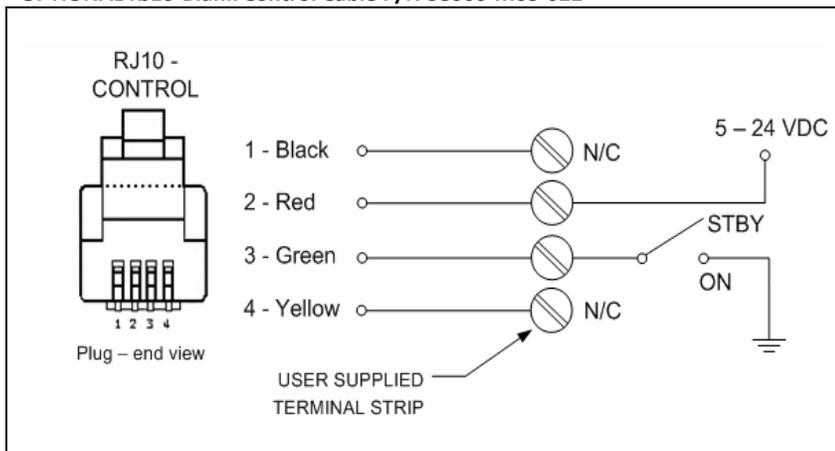

FIG. 1
2. Connect an external 5 – 24V DC control voltage (from a PLC or Computer I/O device or equivalent) to the "Standby Control Input terminal" RJ10 connector (Labeled "Input") using the optional accessory cable – refer to **Figure 1** for connections.